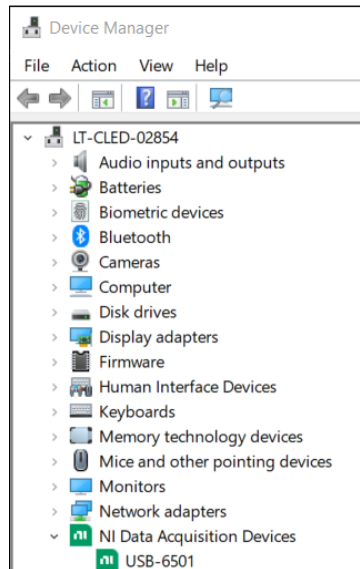

Figure 2: Device Manager showing successfully installed pE-6501 under 'NI Data Acquisition Devices'
2. Follow the instructions in the installation wizard. To test the pE-6501 is recognised in Windows, open Device Manager. The National Instruments icon should appear under 'Data Acquisition Devices' to confirm it is connected successfully (Figure 2).